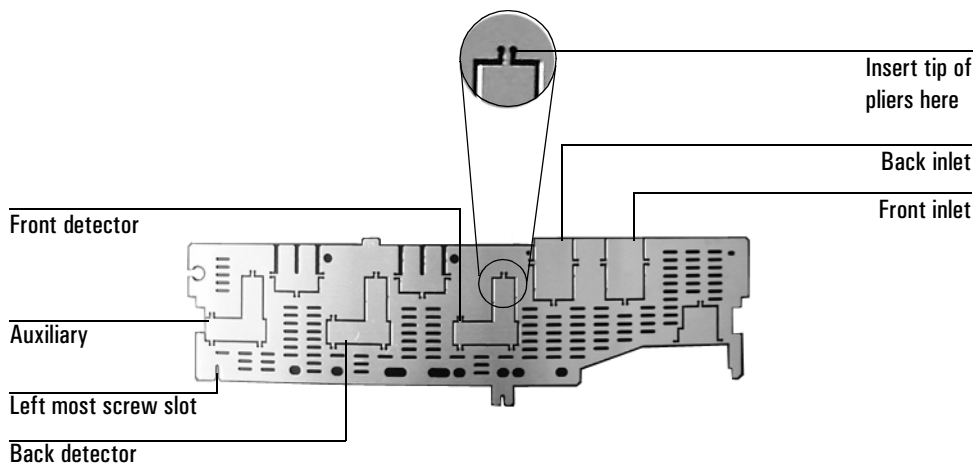

Figure 9 Top rear panel cutouts
- Using a pair of needle-nosed pliers, remove the appropriate top rear panel detector cutout for the μ ECD. Also remove any cutouts needed to access other manifolds or accessories installed in the GC. See Figure 9.